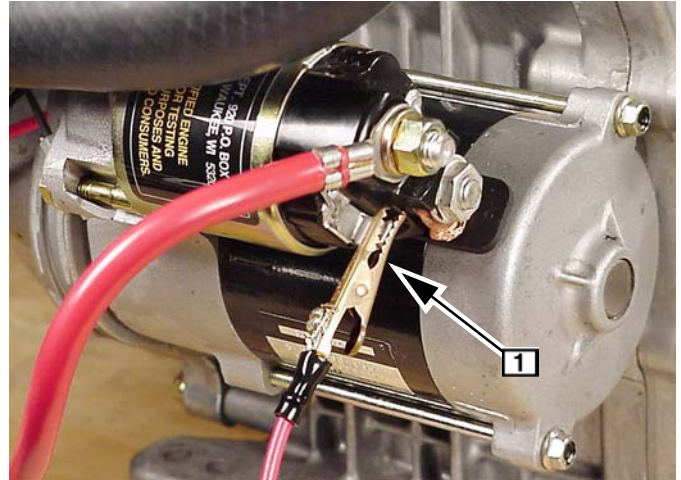

Fig. 7
2. Attach one end of jumper wire to positive terminal on battery. Then, make contact to tab terminal **1** on solenoid, Fig. 7.